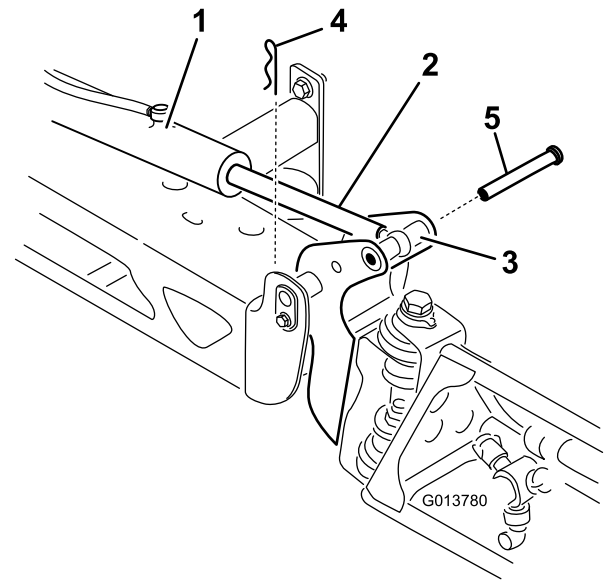

Figure 107
2. Remove the hairpin from the clevis pin (Figure 107).
3. Lift up on the section, remove the clevis pin, and slowly lower the section to the ground (Figure 107).
7. While supporting the spray section, insert the clevis pin through both boom pivot and actuator rod (Figure 107).